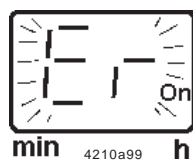

Fig. 20 - Display of a fault indication
- The fault indication "Er" (error) is displayed as a flashing light (fig. 20). At the same time, a potential free contact is available for the external fault indication (option).